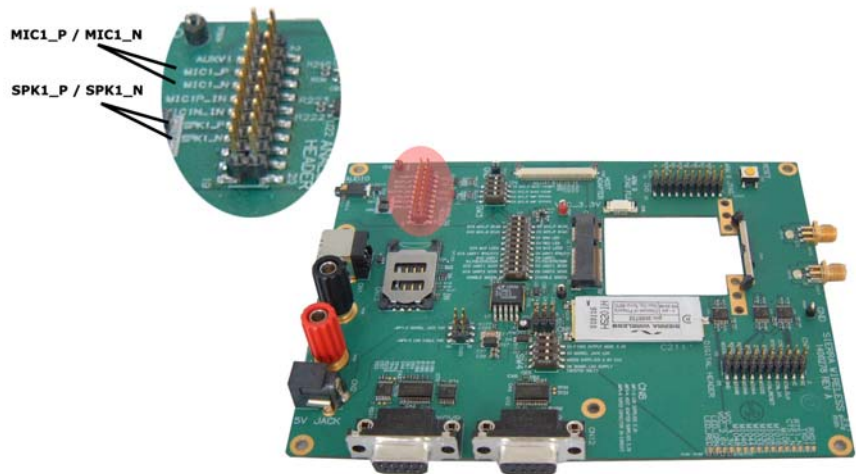

Figure 8-1: Mini Card Dev Kit showing MIC/SPK pins.
- ii. Connect the analyzer input signal to the SPK1_P (positive) and SPK1_N (negative) header pins located at CN18 on the Dev Kit (see Figure 8-1 on page 84). For additional details concerning use of the Dev Kit, see the *PCI Express Mini Card Dev Kit Quick Start Guide (Document 2130705)*.